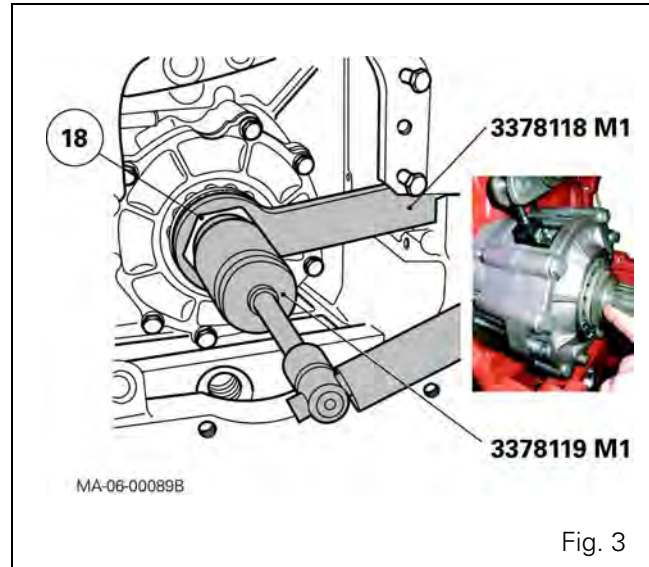

Fig. 3
8. Loosen and immobilise the nut (18) using wrench ref. 3378118M1 (Fig. 3 and § D).
9. Using special socket ref. 3378119M1 (Fig. 3 and § D), turn the pinion clockwise to unlock the nut without unscrewing it completely.